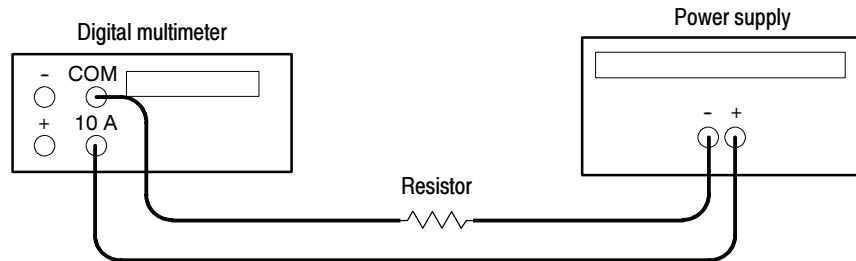

Figure 11: Constant current source test setup
2. Ensure that the power supply output is disabled. Connect the Current Meter and 27 Ω 75 W resistor to the front panel OUTPUT 1 terminals. See Figure 11 for details.
10. Ensure that the power supply output is disabled. Remove the leads from the front panel OUTPUT 1 terminals and connect them to the front panel OUTPUT 2 terminals. Maintain the equipment configuration and polarities shown in Figure 11.
2. Ensure that the power supply output is disabled. Connect the Current Meter and 2.2Ω 50 W resistor to the front panel OUTPUT 3 terminals. See Figure 11 for details.